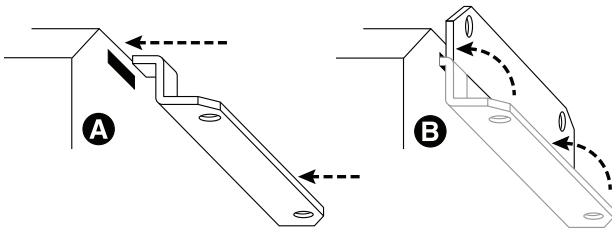

Figure 2
STEP 3 Insert the top mounting bracket (Figure 2) into the slots on the back of the control box (A) and rotate the bracket upward (B).